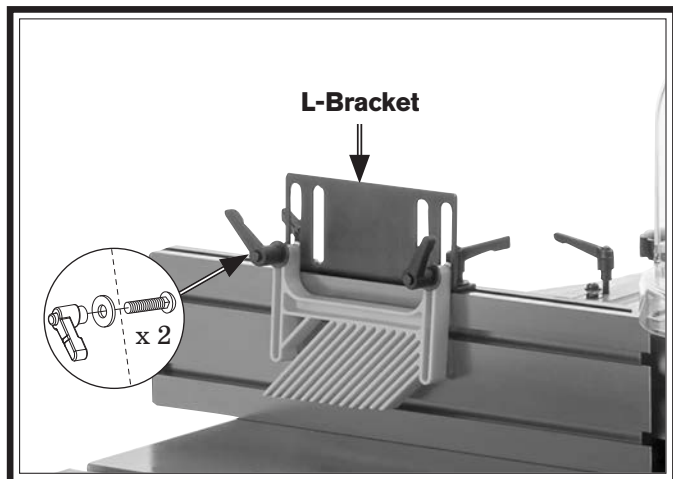

Figure 30. L-bracket and securing hardware.
1. Remove hardware securing featherboard to L-bracket (see Figure 30).